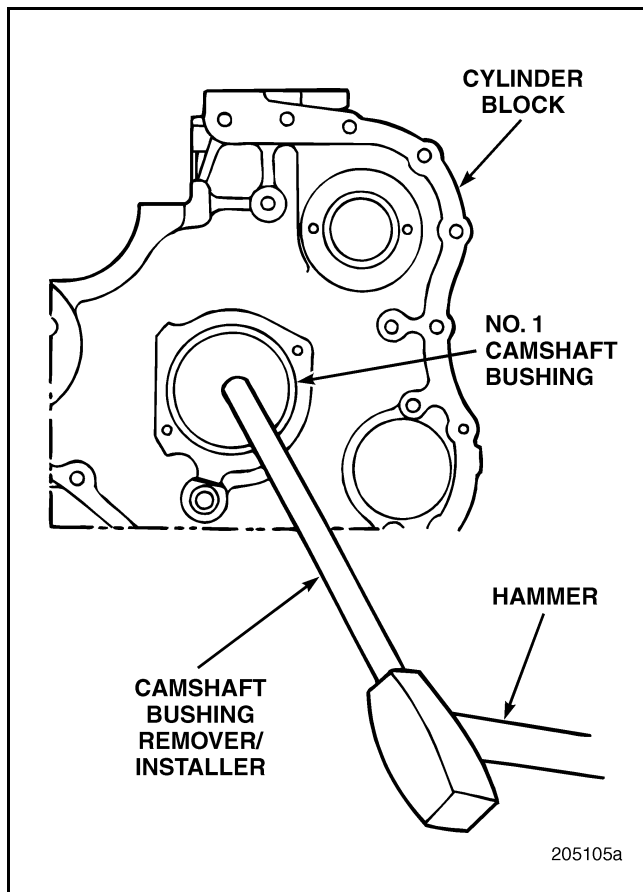

Figure 199 — Camshaft Bushing Removal
1. Using camshaft bushing remover/installer J 42377 (with J 21428-01 Cam Bushing Installer Set) and a hammer, remove the No. 1 camshaft bushing from the cylinder block. Refer to Figure 199.